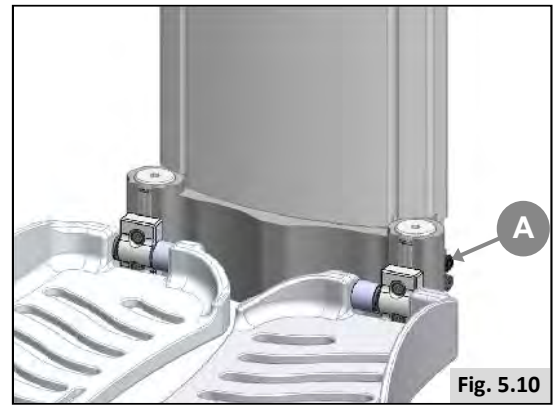

Fig. 5.10
- Use 5mm Allen key to remove the two bolts (A) on the outside edge of the PCM legrest. Repeat for the other side, (Fig.5.10 and 5.11).